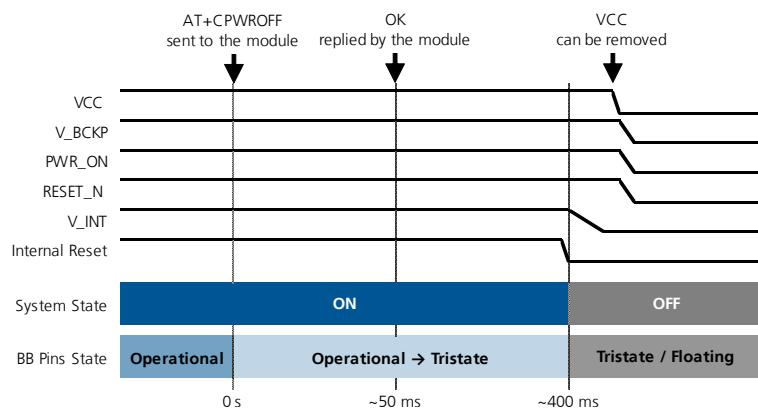

Figure 19: LISA-U2 series Power-off sequence description
Figure 19 describes the module's power-off sequence, properly started by sending the AT+CPWROFF command, allowing storage of current parameter settings in the module's non-volatile memory and a proper network detach:
- ☞ The duration of each phase in the LISA-U2 series modules' switch-off routines can largely vary from the values reported in Figure 19 (e.g. from tens of milliseconds up to tens of seconds), depending on the application / network settings and the concurrent module activities.
- ☞ If the AT command +CPWROFF is issued to switch off the module over a multiplexer channel, the completion of the module power-off sequence could require additionally up to 2.5 s, after the module OK reply. Therefore, if the Application Processor (AP) controls the **VCC** supply of the module, the AP should disable the multiplexer protocol and then issue the AT+CPWROFF command over the used AT interface, or otherwise the AP should issue the AT+CPWROFF command over a multiplexer channel and wait additionally 2.5 s after OK reception before removing the module **VCC** supply.